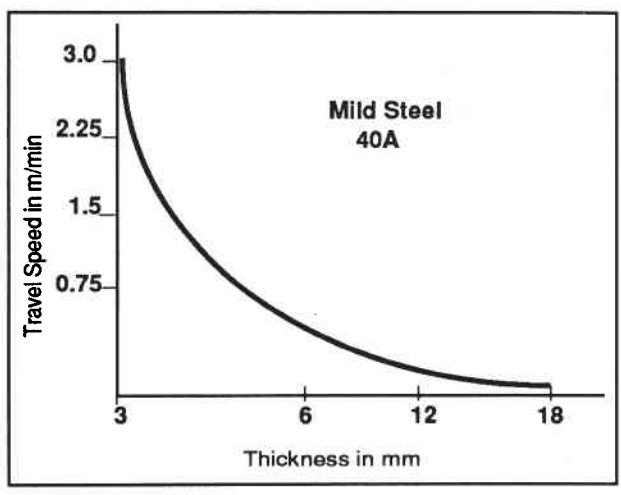

Fig. 5. Sabre-arc 40I/PT - 50 Cutting Range
3. Output Current Control. Enables the precise cutting current to be set for the plate to be cut. Control range is 10-40A. see Fig. 5.
4. After starting the cut, the tip can be dragged along the work if cutting up to 6mm thick sheet. When cutting plates greater than 6mm, maintain a stand off distance (tip to work) of 2-3mm. Fig 5 and 6 are a guide to cutting settings and technique, see also below regarding Piercing, Mesh Cutting and Cutting Guides.